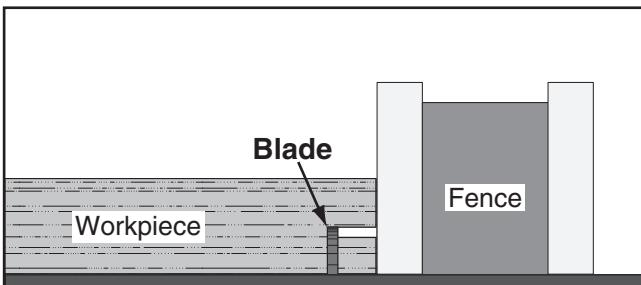

Figure 70. Example of second cut to create a rabbet.
7. Lay workpiece flat on table, as shown in **Figure 70**, adjust saw blade height to intersect with first cut, then perform second cut to complete rabbet.